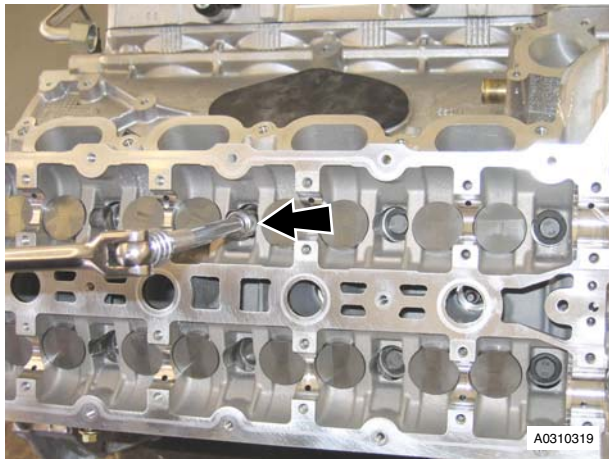

Figure 3
13. Remove the 10 bolts evenly and in steps, that attach the left cylinder head to the cylinder block (refer to Figure 3).